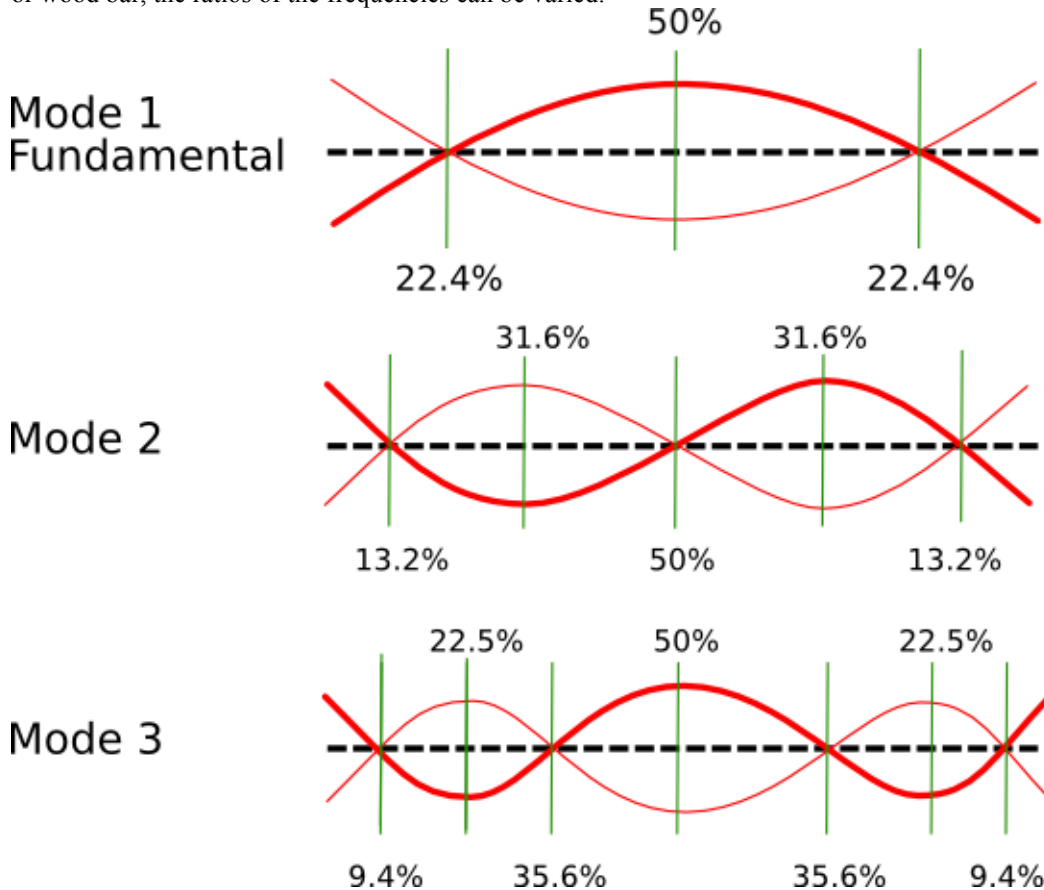

Figure 1. This figure shows motions for first three modes of a steel bar. The steel bar is not help fixed at either end. Based on a Figure by Bart Hopkins.
- Record while you play a scale on the copper pipe lengths. Make a figure similar to Figure 4. You can cut and paste audio to make it look nice. Take a snap shot of your Figure for your lab report! (Command shift 4 and then mail it to yourself!) Can you see any patterns in the overtone spectra. Which overtones depend on pipe length? Bending modes such as shown in Figure 1 are likely to depend on pipe length, whereas motions like those shown in Figure 2 will not depend on pipe length. You may need to look at overtones up to 5000 Hz or so to find some that don't vary with pipe length. Do all overtones shift by the same amount or do groups of them shift together?